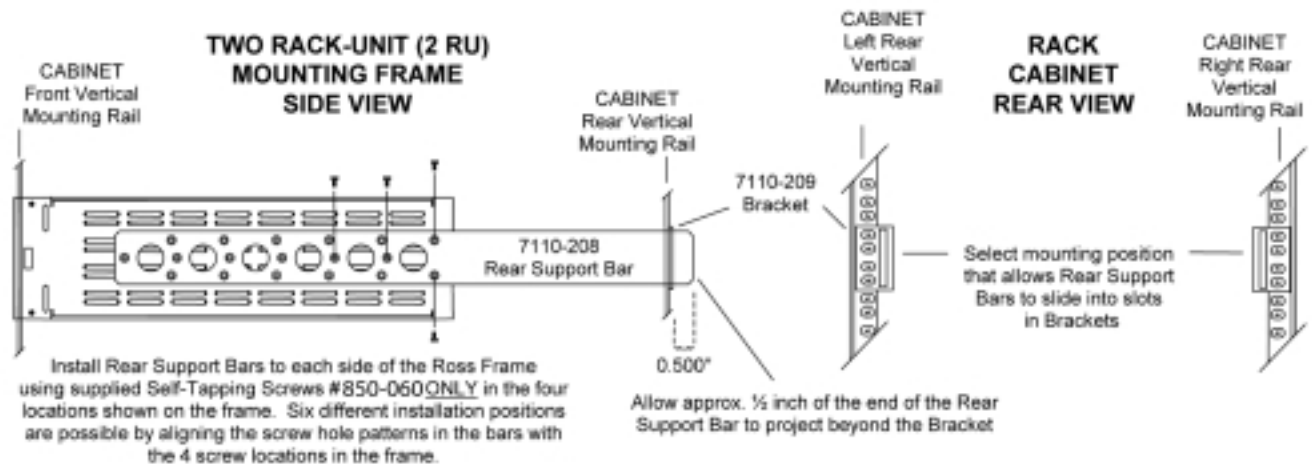

Figure 15. FSB-8310 Rear Support Bars and Brackets Diagram
1. The rear support bars can be attached to the openGear™ frame in six possible positions; refer to Figure 15. Choose the position that suits the cabinet depth that will give approximately a 1/2 inch (0.5") projection beyond the rear vertical mounting rails. Using four screws per bar, as shown in the illustration, fasten one bar to each side of the openGear™ frame.